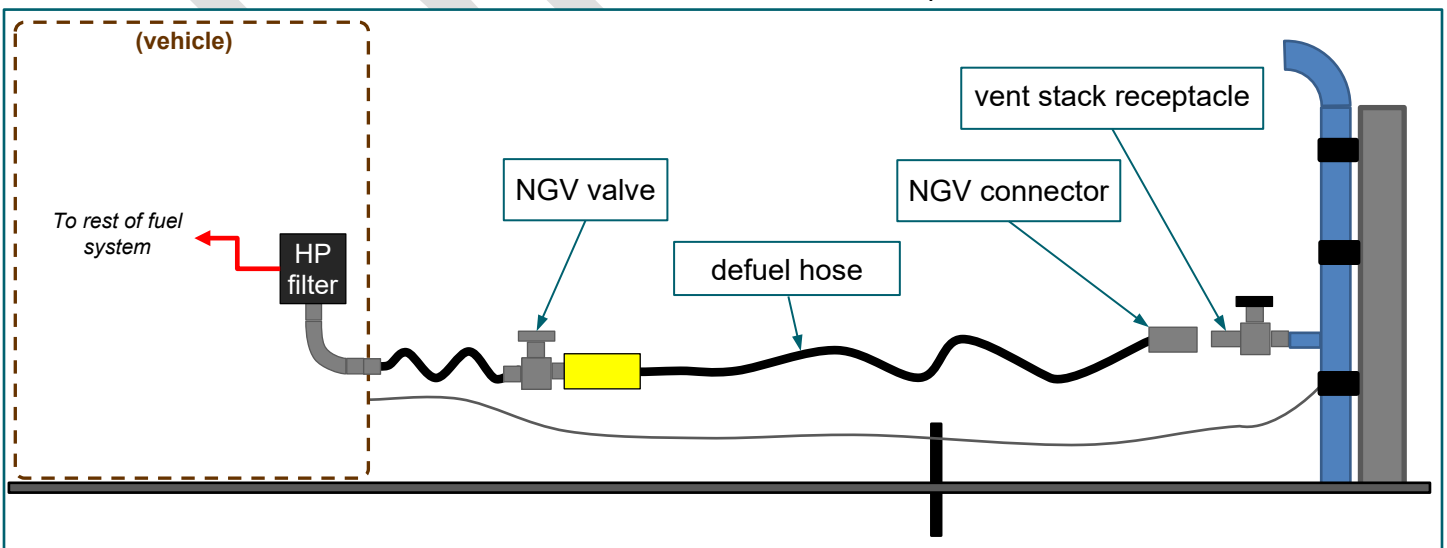

FIGURE 3–16. Defuel hose adaptor NGV valve, defuel hose, NGV connector, vent stack receptacle
18. Disconnect defuel hose adaptor from defuel hose. FIGURE 3–16